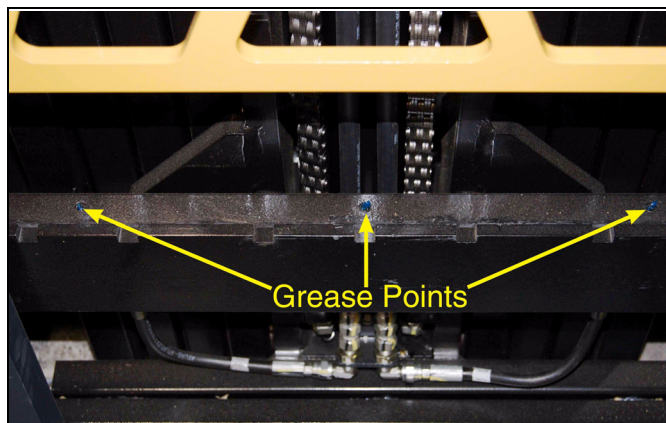

Figure 6-3
4. Using a brush, lubricate the top areas on the fork rails, including a thin film on the front face of both rails. (See Figure 6-3).